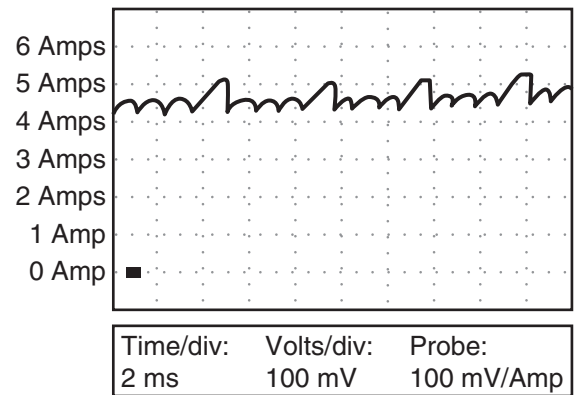

Figure 6-43 A shorted winding within a motor.
- Shorted windings where the current for one winding seems to rise above the rest (Figure 6-43).